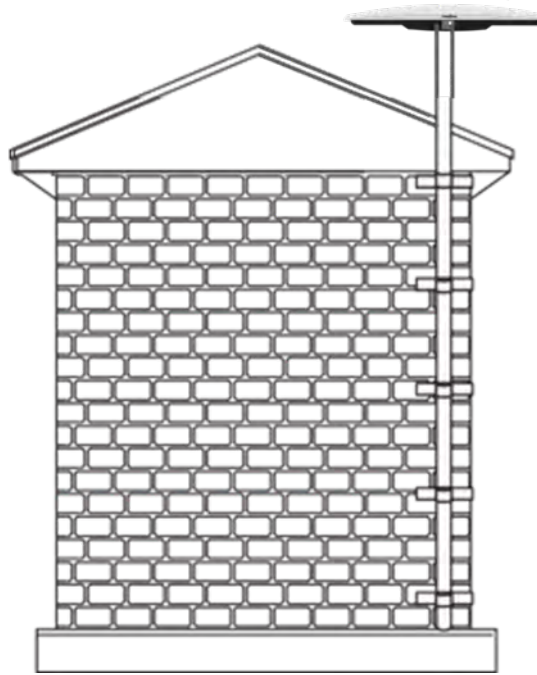

Figure 100: Customized Pole Mount Installation Example
- There are no **B** pole length limits but it must be installed on a place of sufficient structural integrity to prevent any flex, vibration and sway from such wind or external force. The **B** pole can be used as a thicker pole type than the **A** pole. The fixtures should be installed at recommended intervals (see the Fixture Distance from Figure 100: Customized Pole Mount Details). Recommended fixture types are a U-bolt and a pipe clamp.